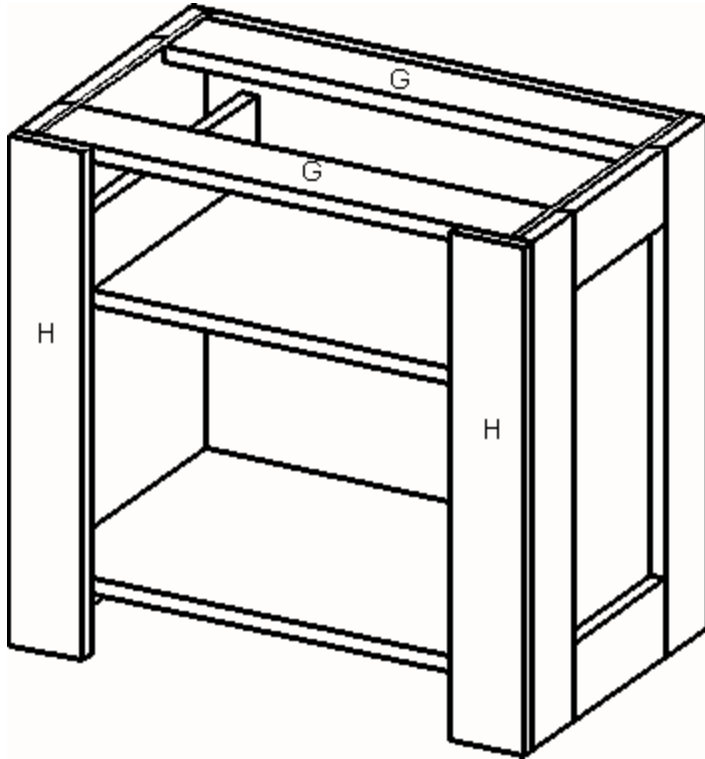

*Figure 4*
7. Attach the shelf (E) without the drawer guides 2-3/4 inches from what will be the bottom of the nightstand, as shown in *Figure 4*. Nail through the side assemblies into the edges, using four 1-1/2-inch (4d) nails on each joint.
8. Repeat Step 7 to attach the remaining shelf (E), with the drawer guides facing the top of the nightstand, 6-1/2 inches from the top of the nightstand, as shown in *Figure 4*.
9. Cut two top supports (G) from 1 x 4 pine, each measuring 22-1/2 inches long.
10. Attach one top support (G) between the two side assemblies, flush with the top edge of
the back (D), as shown in *Figure 4*. Nail through the side assemblies into the ends of the top support, using two 1-1/2-inch (4d) nails on each joint.
11. Repeat Step 10 to attach the remaining top support (G) between the two side assemblies, flush with the front and top of the base assembly, as shown in *Figure 4*.